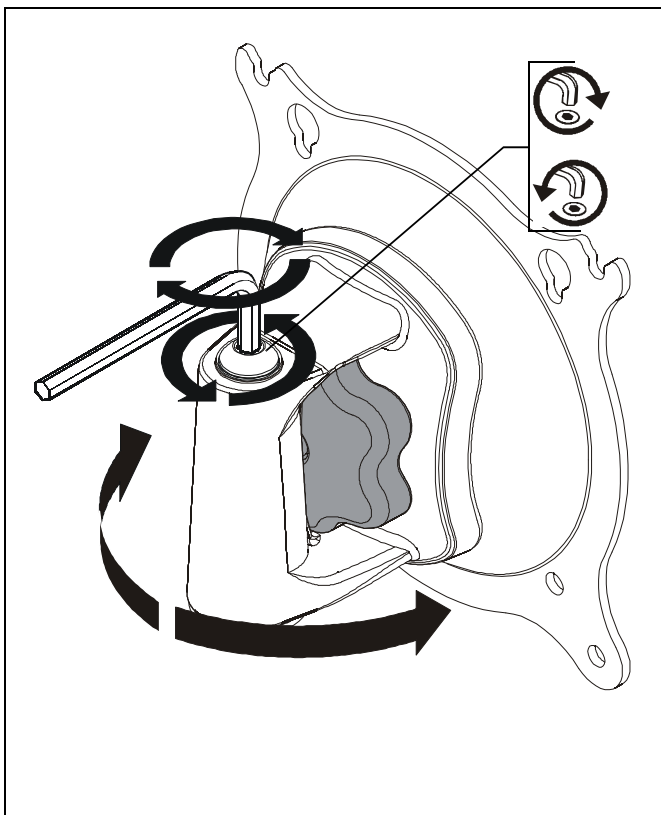

Figure 6
1. Using hex wrench provided, turn adjustment screw clockwise to increase tension or counter-clockwise to decrease tension. (See Figure 6)